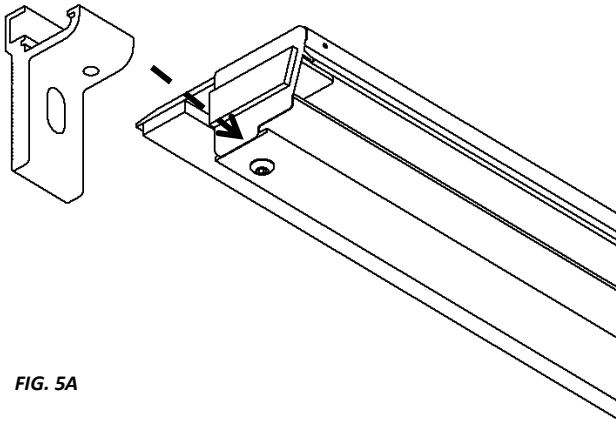

FIG. 5A
Finally, check for proper spacing by measuring between the rails at the canister and the tailgate end of the rails (Fig 5A). The measurement should be equal to or less than those in Fig 5B. The Rail Brackets and Shims have been pre-installed to achieve the proper Between the Rail dimensions (BR) when placed on an average factory truck bed. However, not all truck beds are average dimensionally and some have optional plastic caps or over the rail spray-in bedliners